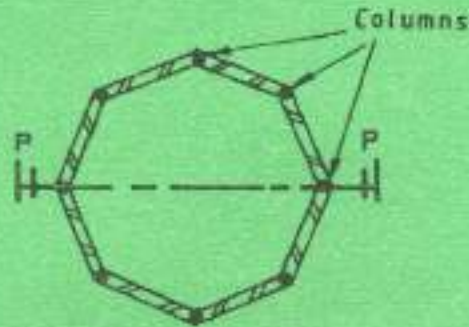

Fig.3
8. Figure 3 shows the plan outline of the walls of an octagonal chapel with base radius 8000 mm.